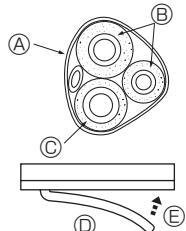

Fig. 5-5
- Route the drain hose diagonally below the connecting pipes. (Fig. 5-5)
- (A) Piping tape
- (B) Refrigerant piping
- (C) Drain hose
- (D) Piping bent outward
- (E) Push